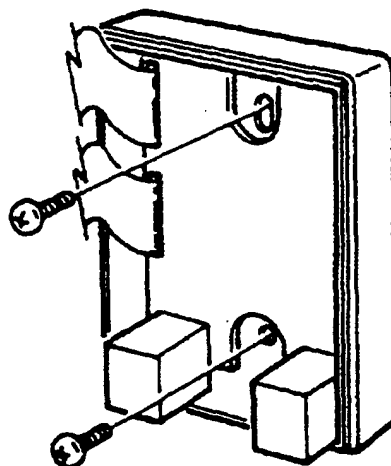

Figure 1-58 Attach SLT-F(1G)-() ADP to the Wall
2. Use the two provided wood screws to attach the unit to the wall. Close the unit and secure with the two screws previously removed. Refer to Figure 1-58 - Attach SLT-F(1G)-() ADP to the Wall.